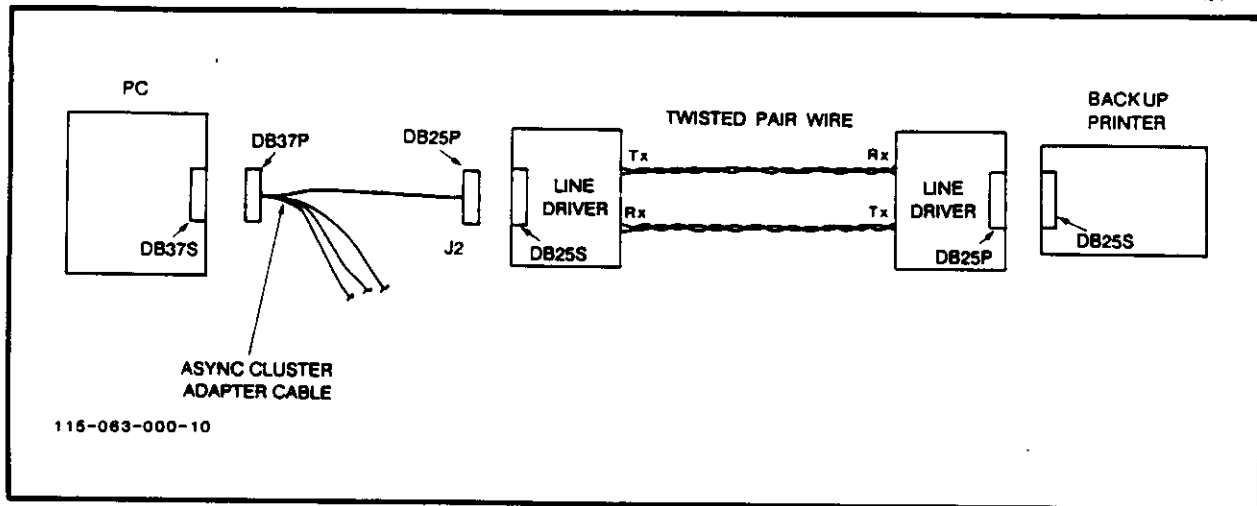

Figure 3-10. Remote Backup Printer Connection
7.02 If you have a remote cable kit, refer to Figure 3-10 and follow the steps below to connect it.